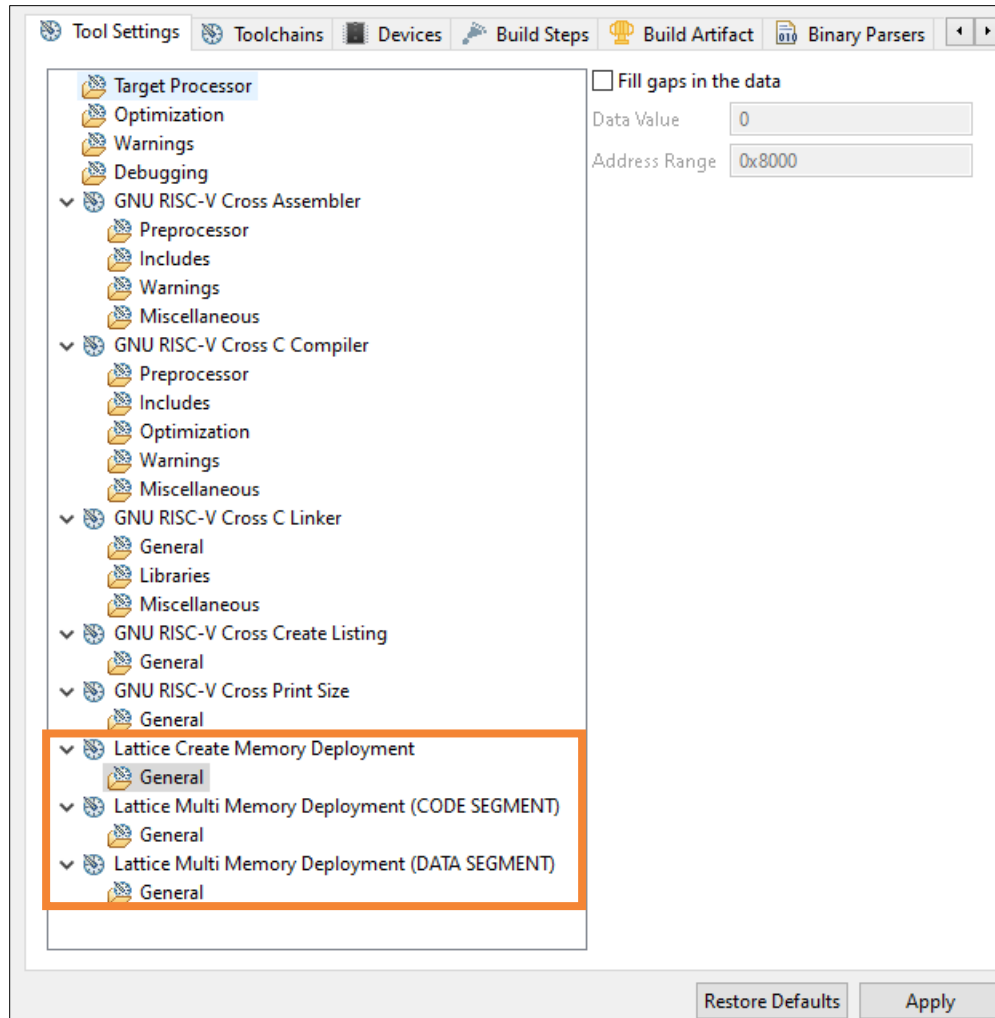

Figure A.5. Tool Settings Tab of C/C++ Build Settings
5. Go back to the **Tool Settings** tab. The relevant Lattice memory deployment tools can be found (Figure A.5). Customize the tool options as needed.